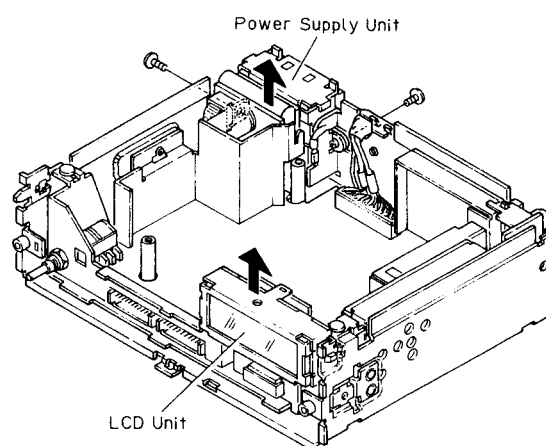

Fig. 3
1. Remove two screws. (Fig. 3)
2. Raise up on power supply unit and LCD unit. (Fig. 3)